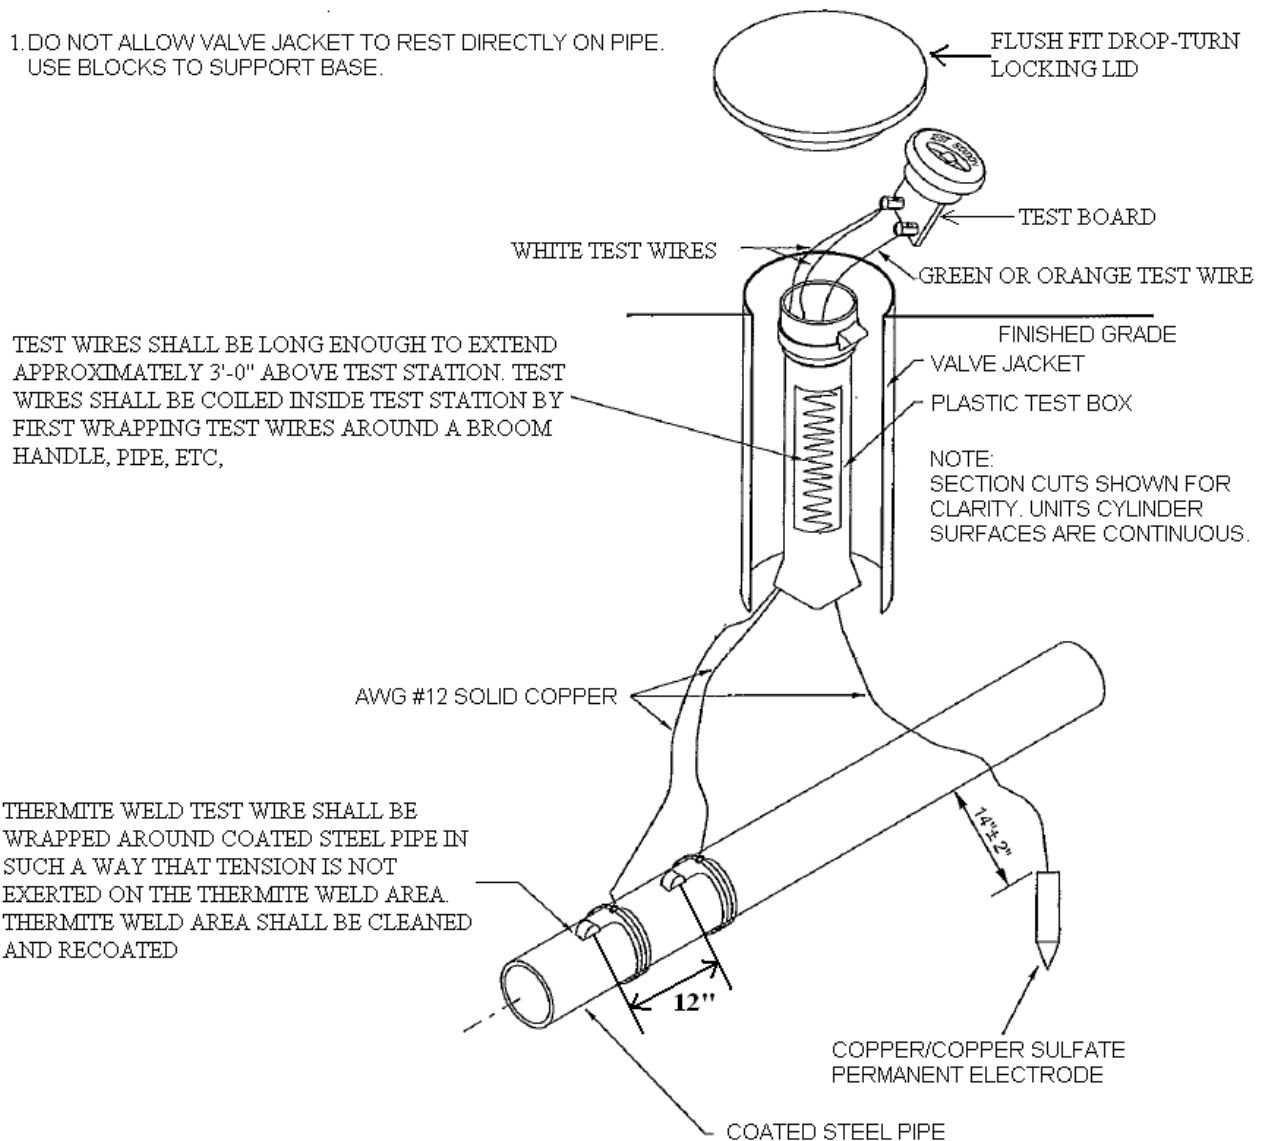

Figure1. Standard test station with permanent electrode
The basic installation of a standard test station is shown in Figure 1, along with an associated materials list.
- 3.2.3 Attach test wires as shown in Figure 1. Each test wire shall be installed in a continuous length. The test wire shall be properly secured to the pipe and wrapped around with 50 percent overlap.
- 3.2.5 If instructed by Corrosion Personnel, install a reference electrode following procedures outlined in Section 3.2 and as shown in Figure 1.
If instructed by Corrosion Personnel, install an M.C. Miller IonX copper/copper sulfate reference electrode, with twenty-five feet of #12 test wire, as shown in Figure 1. The electrode shall be placed according to the manufacturer’s standard, approximately 14 inches from the pipe with the ceramic tip oriented downwards. Note that if anodes are also to be installed, they should be placed on the opposite side of the pipe (as discussed in Section 3.4) and soil around pipe must be damped. Package bag on anode must be removed during installation process.